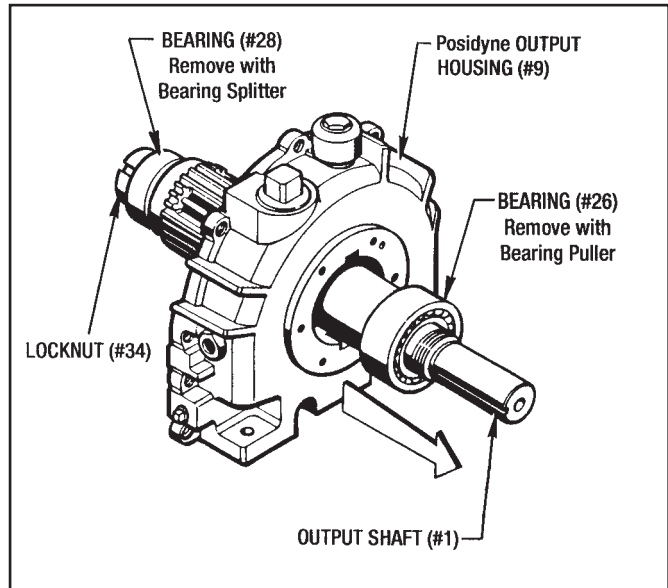

Figure 7.7 - Removing the Output Shaft
- With a mallet tap the Output Shaft (#1) out of the Output Housing as shown in Figure 7.7.